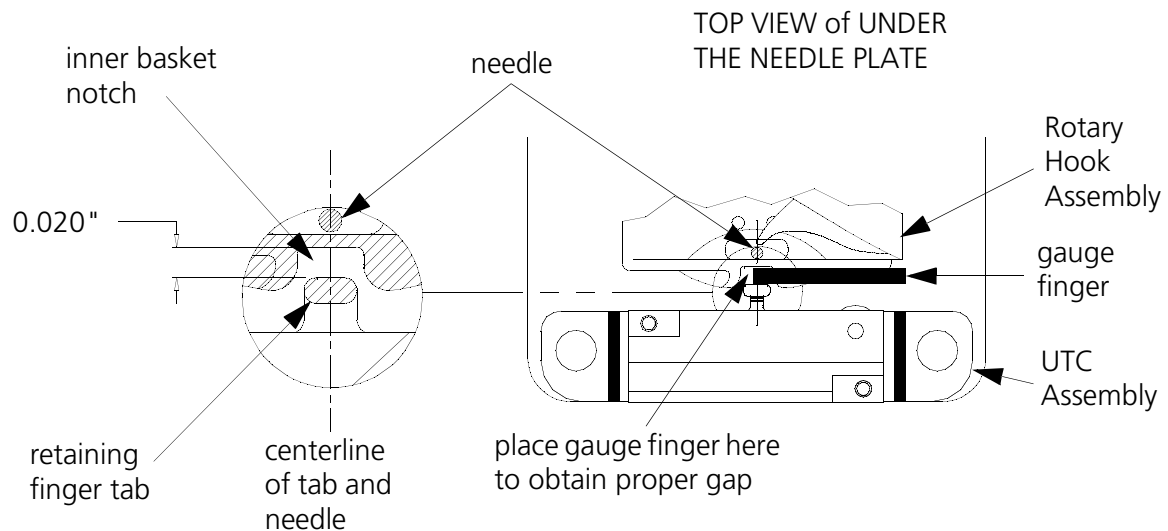
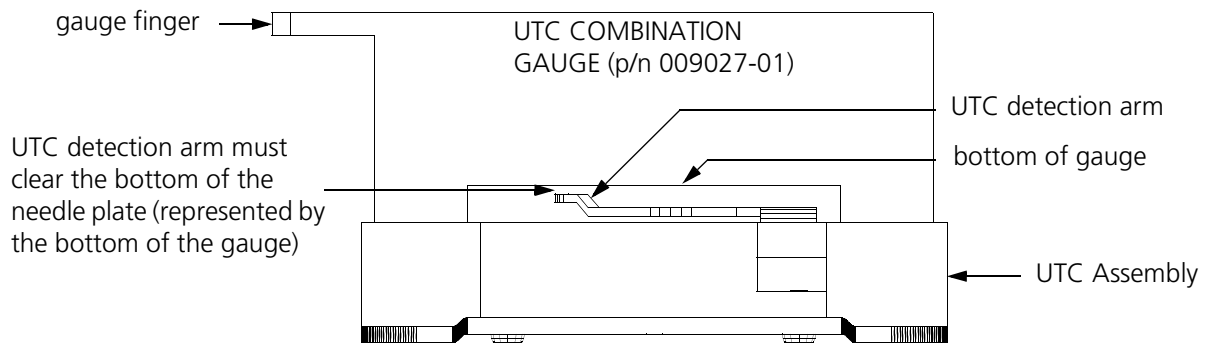

Figure 4-28
Figure 4-29
5. Place the finger of the UTC combination gauge (see Figure 4-29 for diagram of the gauge) between the retaining finger tab and the rotary hook inner basket notch (see Figure 4-28).
6. Position the UTC assembly until the gap between the retaining finger tab and the rotary hook inner basket notch is set to the thickness of the gauge finger. The gap is 0.020 inches as shown in Figure 4-28).
7. Additionally, align the center of the retaining finger tab to the center of the needle as indicated in Figure 4-28.
- Place the UTC Combination Gauge on top of the needle plate support bracket as shown in Figure 4-29 and check that the UTC detection arm does not touch the bottom surface of the gauge which represents the bottom of the needle plate when it is installed.